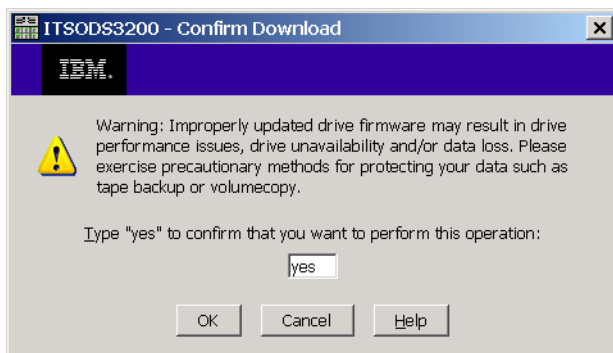

Figure 14-32 Confirm Download
- Click **Finish** to update the drive firmware. A confirmation window appears (Figure 14-32). Type yes and click **OK** to start the update.